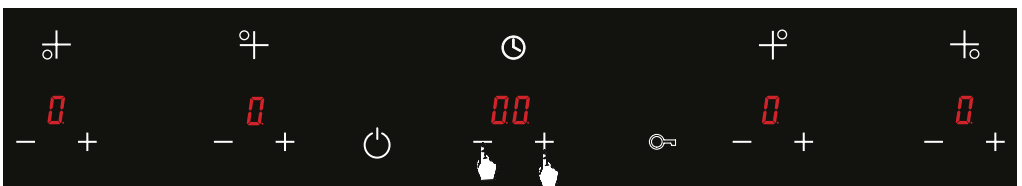

Figure 55
6. When you want to turn off the timer before the set period, use the **+** and **-** key to bring the timer to **00**. (See Fig. 55)